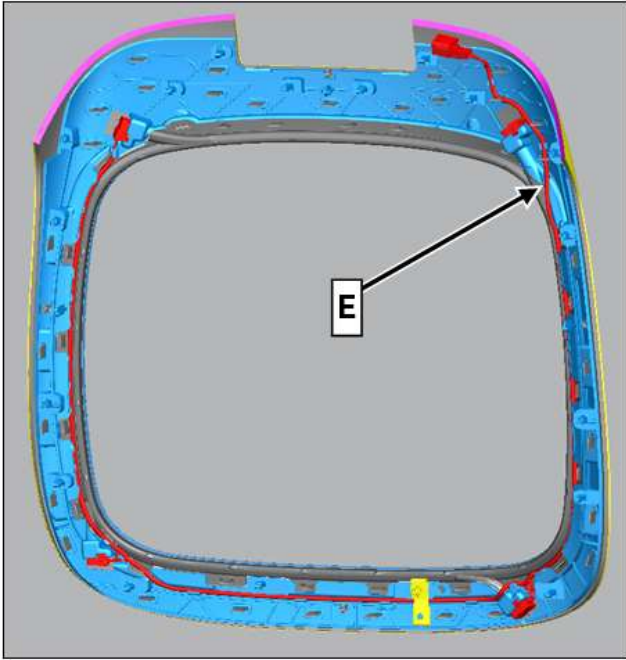

Figure 4
5. Remove electrical wiring harness (E, figure 4) from outer backrest mounting strip.